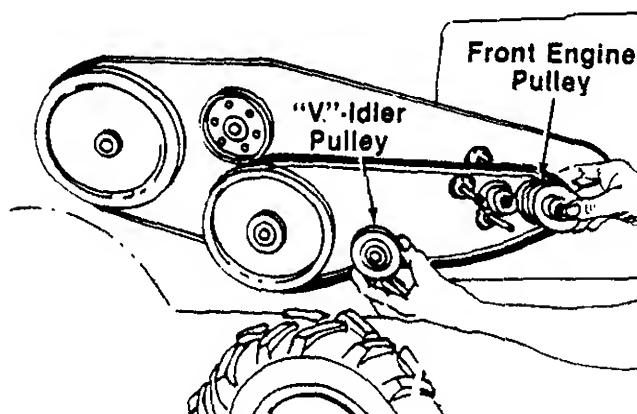

FIGURE 23.
5. Slide the front engine pulley and "V"-idler pulley out as shown in figure 23.